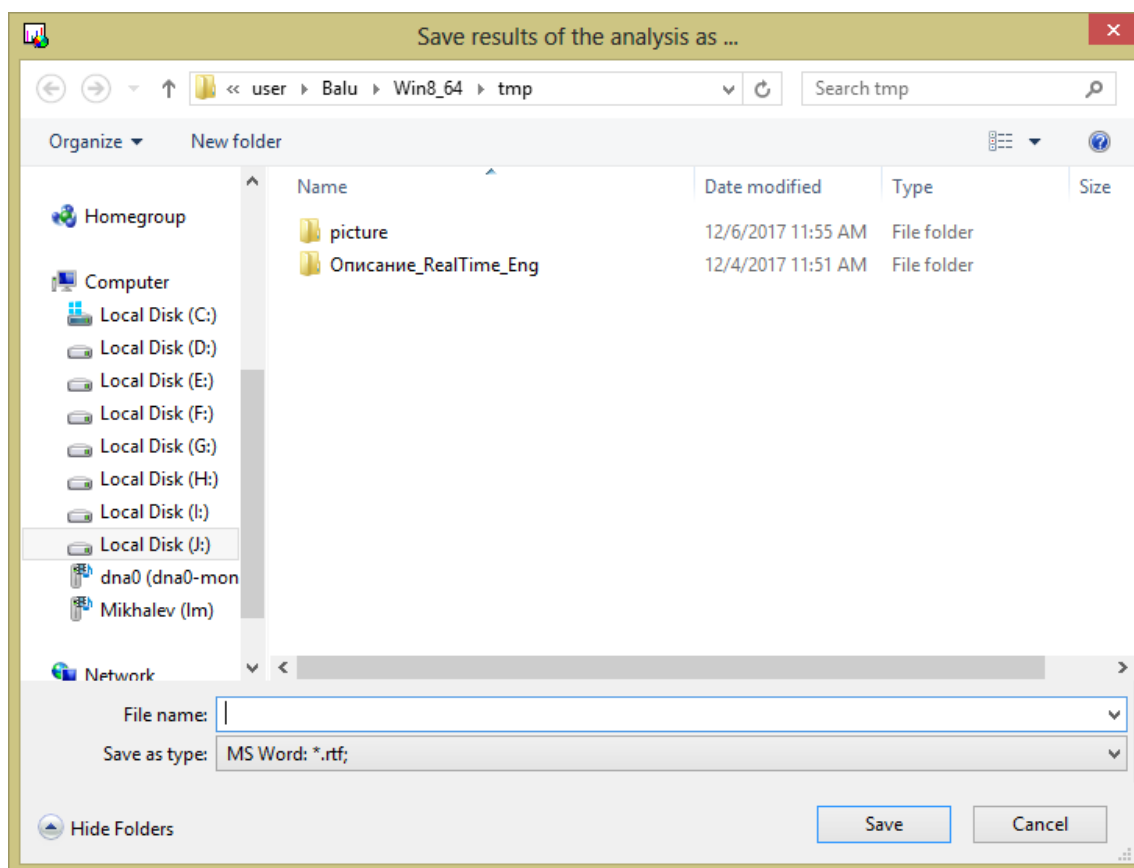

Fig.80 Saving the report
- In the opened window **Save the analysis results as...** specify a file name and select a folder on the hard disk or any other device to which it will be saved (Fig.80). After clicking the button **Save** the file will be saved to the specified directory.